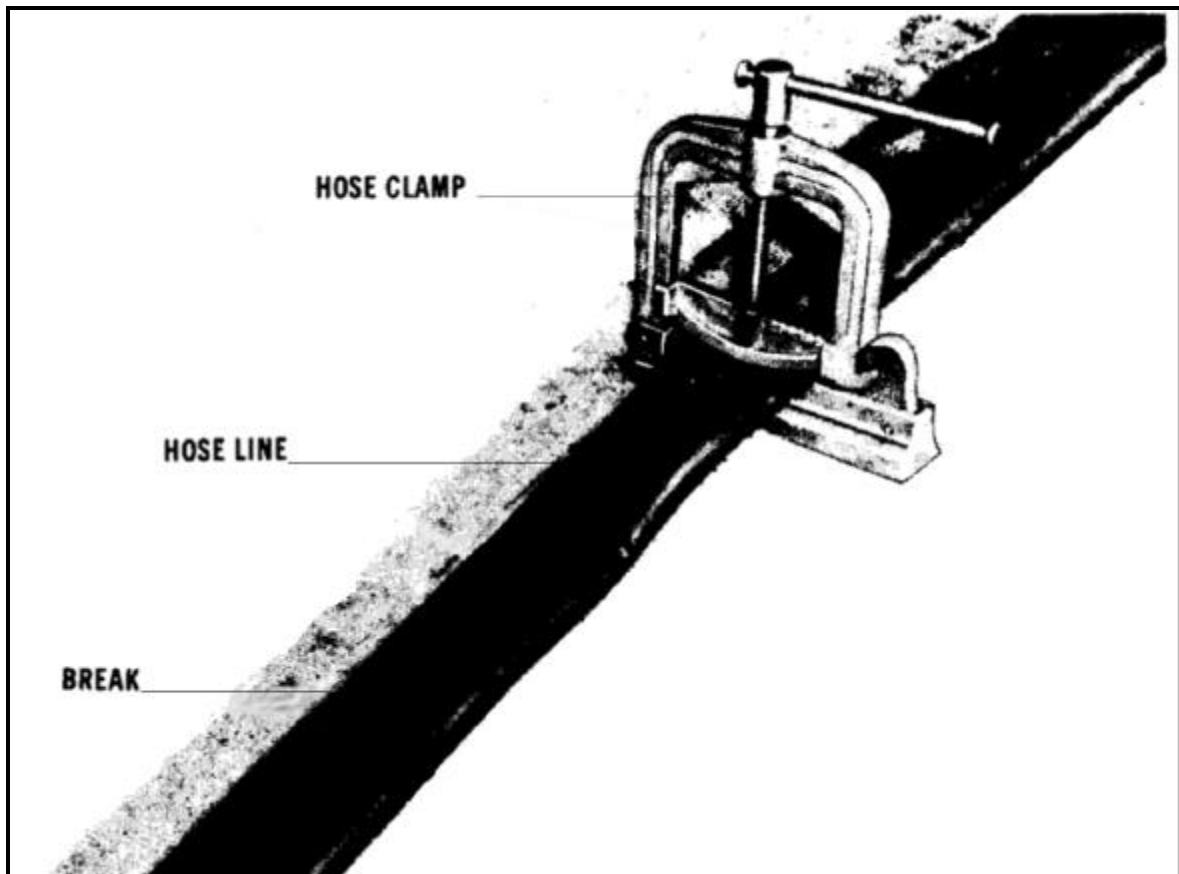

Figure 27-12. Clamp applied to hose
- Put a hose clamp (from the repair kit) on each side of the break as shown in Figure 27-12, page 27-10.